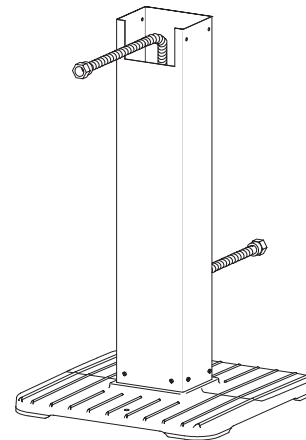

Figure 3
3. Insert the stainless steel flex tube assembly into the post. The inlet side of the gas tubing may protrude from the bottom of the patio base or through the large circular hole in the back of the square post. See Figure 3. Note: Do not attempt to cut or alter the flex tube in any way.